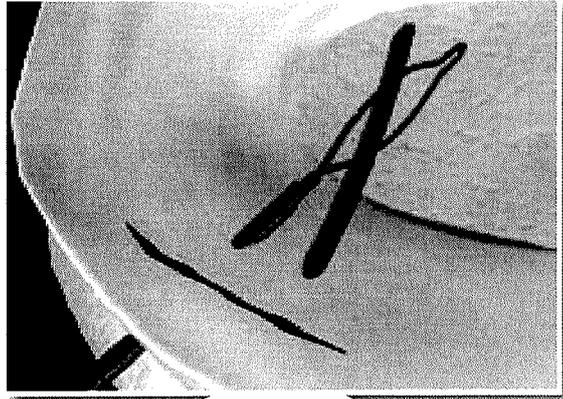

Figure 7
- ∂ Remove the stylet from the first needle. Insert the loop through the needle until the loop opens in the joint. Rotate the loop to accept the second needle (Figure 7).